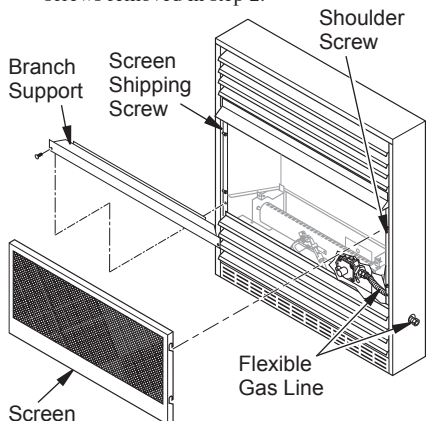

Figure 24 - Removing Log Base Assembly From Fireplace
2. Remove screws that attach branch support to fireplace (see Figure 24). Carefully lift up branch support and remove from fireplace (see Figure 24).
NOTICE: Most building codes do not permit concealed gas connections. A flexible gas line is provided to allow accessibility from the fireplace (see Figure 24). The flexible gas supply line connection to the equipment shutoff valve should be accessible.